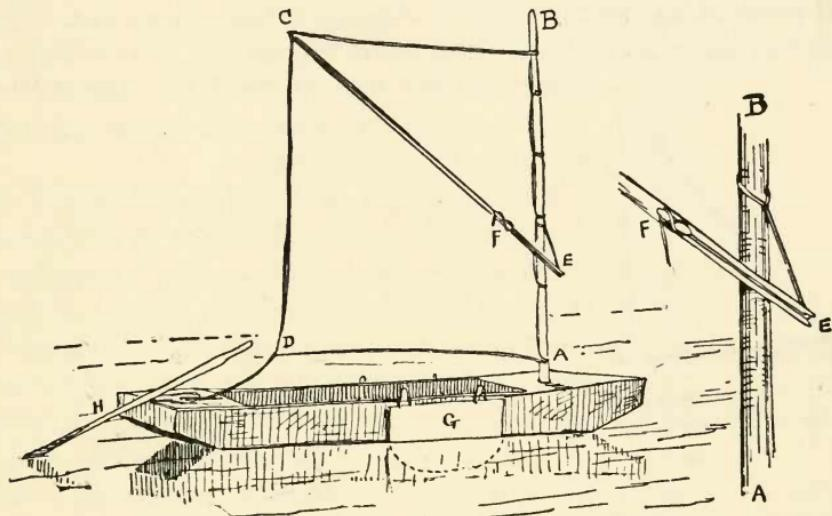
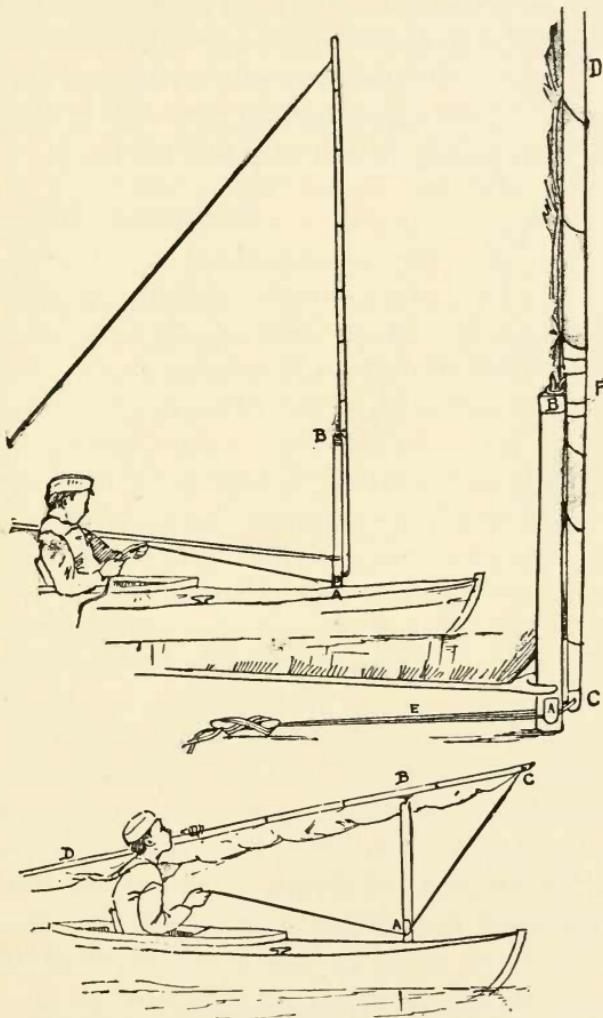
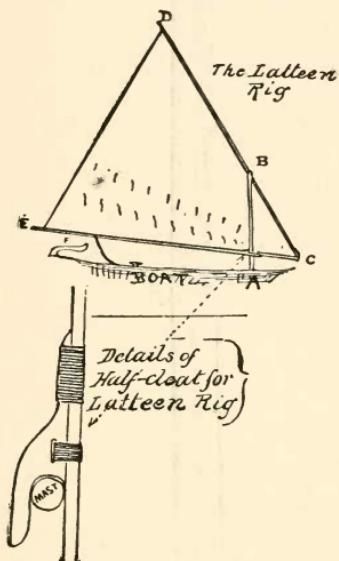

Fig. 143.—A simple rig.
Fig. 145.—A new device.
Fig. 146.—The latteen rig.
I will suppose that the reader has the use of a broad, flat-bottomed boat without any rudder. (See Fig. 143.) She cannot be made to work like a racing yacht under canvas, but lots of fun can be had out of her.
C, E, is trimmed so that the loop at C will fit over it but not slip down. The lower end is simply notched to receive a short line called a "snotter," as shown in the detailed drawing at the right of the cut (Fig. 143). It will be readily understood that, when the sprit is pushed upward in the direction of C, the sail will stand spread out. The line is placed in the notch at E and pulled up until the sail sets properly, when it is made fast to a cleat or to a cross-piece at F. This device is in common use and has its advantages, but a simple loop for the foot of the sprit to rest in is more easily made and will do nearly as well. H is an oar for steering. Having thus described the simplest rig possible, we may turn our attention to more elegant and elaborate but no^t always preferable outfits.
Fig. 145 shows a device, published for the first time in the *St. Nicholas Magazine* for September, 1880, which enables the sailor to step and unstep his mast, and hoist or lower his sail without leaving his seat—a matter of great importance when the boat is light and tottish, as in the case of that most beautiful of small craft, the modern canoe, where the navigator sits habitually amidships. The
lower mast (A, B, Fig. 145) stands about two and a half feet above the deck. It is fitted at the head with a metal ferrule and pin, and just above the deck with two half-cleats or other similar devices (A). The topmast (C, D) is fitted at F with a stout ring, and has double halyards (E) rove through or around its foot. The lower mast being in position (see lower part of Fig. 145), the canoeist desiring to make sail brings the boat's head to the wind, takes the topmast with the sail loosely furled in one hand and the halyards in the other. It is easy for him by raising this mast, without leaving his seat, to pass the halyards one on each side of the lower mast and let them fall into place close to the deck under the half-cleats at A. Then, holding the halyards taut enough to keep them in position, he will hook the topmast ring over the pin in the lower mast-head and haul away (see top part of Fig. 145). The mast will rise into place, where it is made fast.
simple lashing, having sufficient play to allow the two spars to shut up together like a pair of dividers. The boom (C, E) has, where it meets the short lower mast, a half-cleat, or jaw, shown in detail at the bottom of the cut (Fig. 146), the circle representing a cross-section of the mast. This should be lashed to the boom, as screws or bolts would weaken it. To take in sail, the boatman brings the boat to the wind, seizes the boom and draws it toward him. This disengages it from the mast. He then shoves it forward, when the yard (C, D) falls of its own weight into his hands and can be at once lifted clear of the lower mast. To keep the sail flat, it is possible to arrange a collar on the lower mast so that the boom, when once in position, cannot slip upward and suffer the sail to bag.
is recommended only for boats which are "stiff"—not tottish, that is. The fact that a considerable portion of the sail projects forward of the mast renders it awkward in case of a sudden shift of wind. Its most convenient form is shown in Fig. 146. The arrangement for shipping and unshipping the yard is precisely like that shown in Fig. 145—a short lower mast with a pin at the top and a ring fitted to the yard. It has a boom at the foot which is joined to the yard at C by means of a hook or a
Nothing has been said about reefing thus far, because small boats under the management of beginners should not be afloat in a "reefing breeze." Reefing is the operation of reducing the spread of sail when the wind becomes too fresh. If you will look at Fig. 146 you will see rows of short marks on the sail above the boom. These are "reef-points"—bits of line about a foot long passing through holes in the sail and knotted so that they will not slip. In reefing, the sail is lowered and that portion of it between the boom and the reef-points is gathered together, and the points are tied around both it and the boom. When the lower row of points is used it is a single reef. Both rows together are a double reef.
with the wind blowing toward the shore. Row out a little way, and then sail in any direction in which you can make the boat go, straight back to shore if you can, with the sail out nearly at right angles with the boat. Then try running along shore with the sheet hauled in a little and the sail on the side nearest the shore. You will soon learn what your craft can do, and will probably find that she will make very little, if any, headway to windward. This is partly because she slides sidewise over the water. To prevent it you may use a "lee-board"—namely, a broad board hung over the side of the boat (G, Fig. 143). This must be held by stout lines, as the strain upon it is very heavy. It should be placed a little forward of the middle of the boat. It must be on the side away from the wind—the lee side—and must be shifted when you go about. Keels and centreboards are permanent contrivances for the same purpose, but a lee-board answers very well as a makeshift, and is even used habitually by some canoeists and other boatmen.
In small boats it is sometimes desirable to sit amidships, because sitting in the stern raises the bow too high out of water; steering may be done with an oar over the lee side, or with "yoke-lines" attached to a cross-piece on the rudder-head, or even to the tiller. In this last case the lines must be rove through rings or pulleys at the sides of the boat opposite the end of the tiller. When the handle of the oar (H, Fig. 143)—or the tiller (F, Fig. 146) if a rudder is used—is pushed to the right, the boat will turn to the left, and *vice versa*. The science of steering consists in knowing when to push and how much to push—very simple, you see, in the statement, but not always so easy in practice.